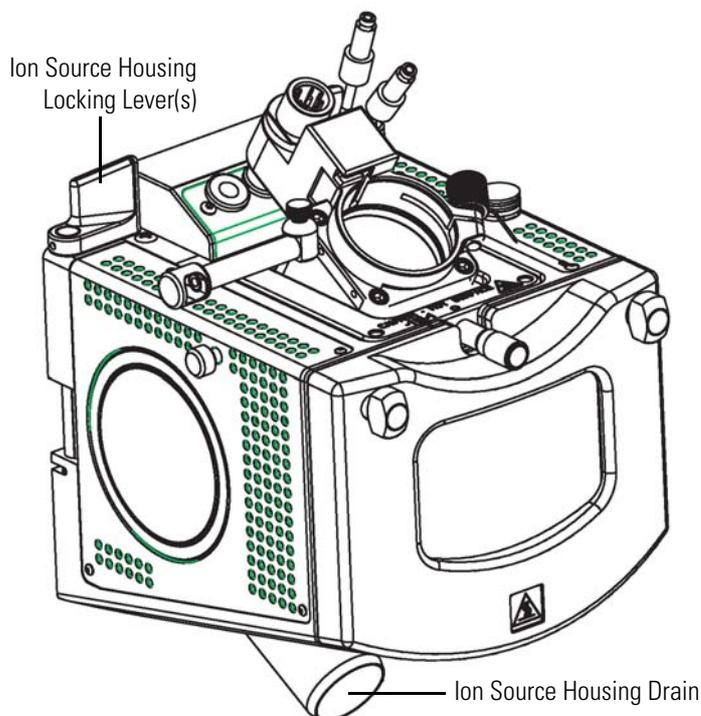

Figure 3-6. Ion Max source housing, showing detail of components
1. Remove the drain tube from the ion source housing drain. See Figure 3-6.